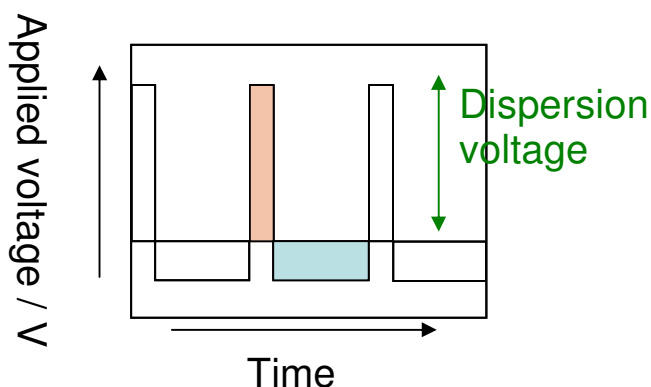

Figure 1 Asymmetric waveform applied to electrodes during FAIMS, showing dispersion voltage
The dispersion field (DF) is the field created by the dispersion voltage (DV). Dispersion voltage is the peak voltage of the asymmetric waveform applied to the electrodes in the FAIMS process. See Figure 1.
A constant voltage is applied to the separator electrodes in the FAIMS process, in addition to the asymmetric waveform voltage (seen in Figure 1). This is called the compensation voltage (CV). Compensation voltage is scanned from -6.0 V to 6.0 V when collecting Lonestar data. The detector will pick up different analyte molecules at different combinations of CV and DF.